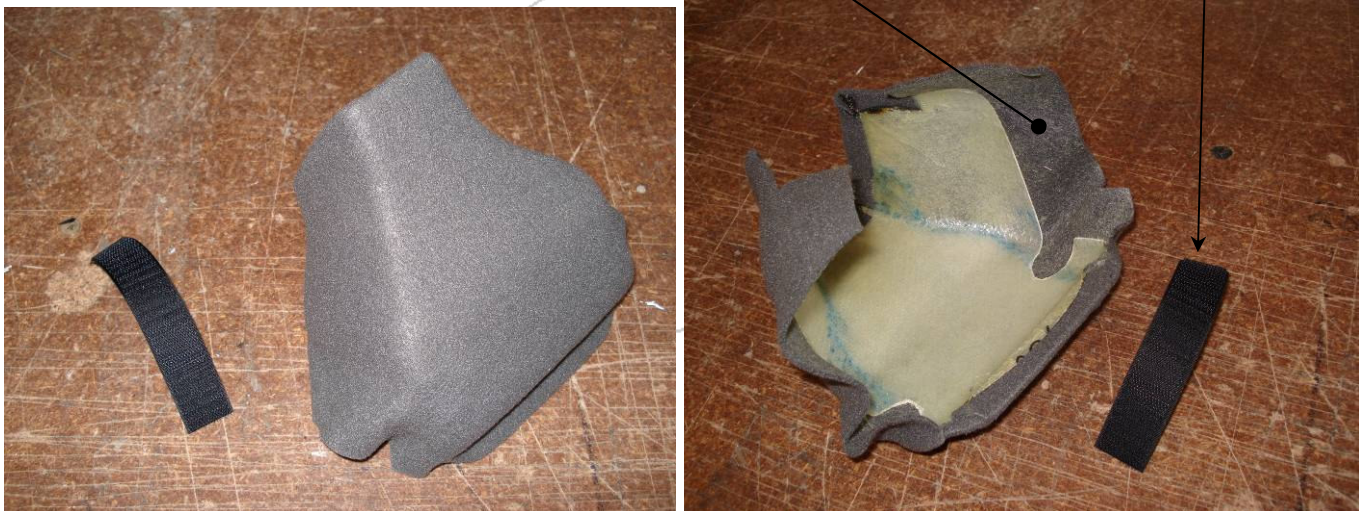

Figure 1 – New Cover as Supplied
- b) Figure 1 shows the new part. Compared to the original the sides are deeper and the upholstery has been designed to overhang the part. A length of hook-side Velcro has also been supplied.